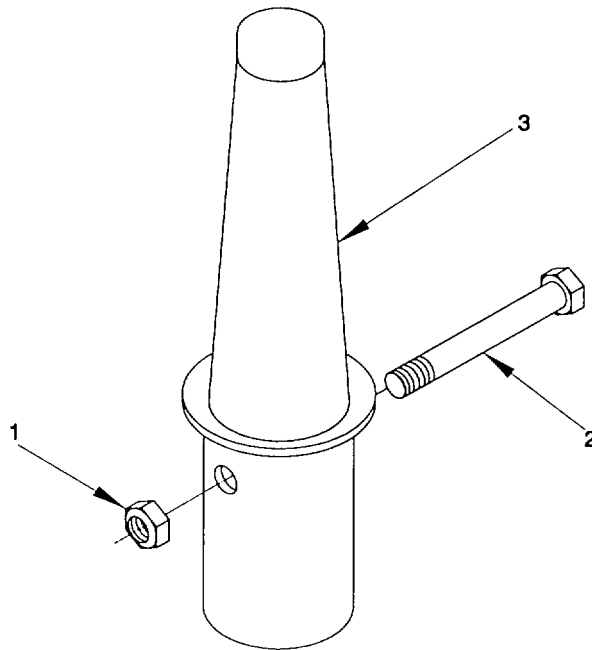

Figure 2-186. Rhino Horn, Remove/Install.
a. Remove. (figure 2-186)
c. Install. (figure 2-186)